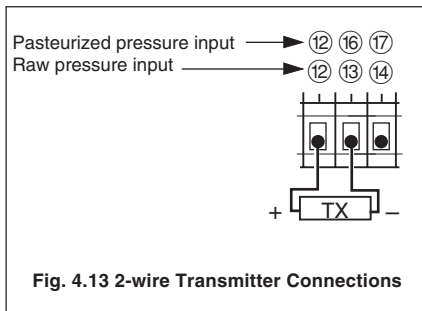

Fig. 4.13 2-wire Transmitter Connections
4.9.2 2-wire Transmitter – Fig. 4.13